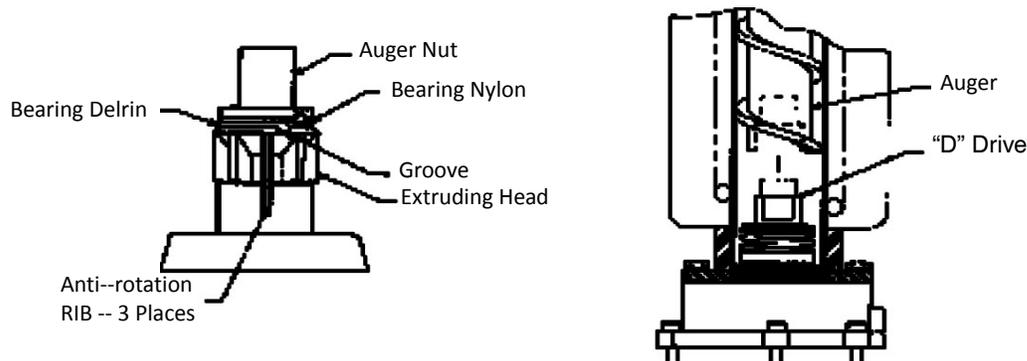

Figure 8. Auger and Extruding Head Removal
5. When replacing the auger assembly, make certain that both the auger engages the output shaft drive and the extruding head ribs engage the evaporator tube. (See Figure 8)